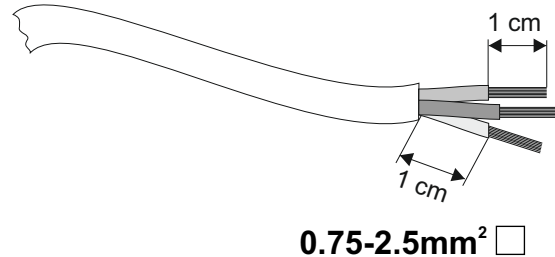

Figure 10. Power Supply cables
- ❖ The diameter of the cable must be at least 1mm (see Figure 10).
- ❖ The inner insulation of each cable must not be cut more than 1cm (see Figure 10).